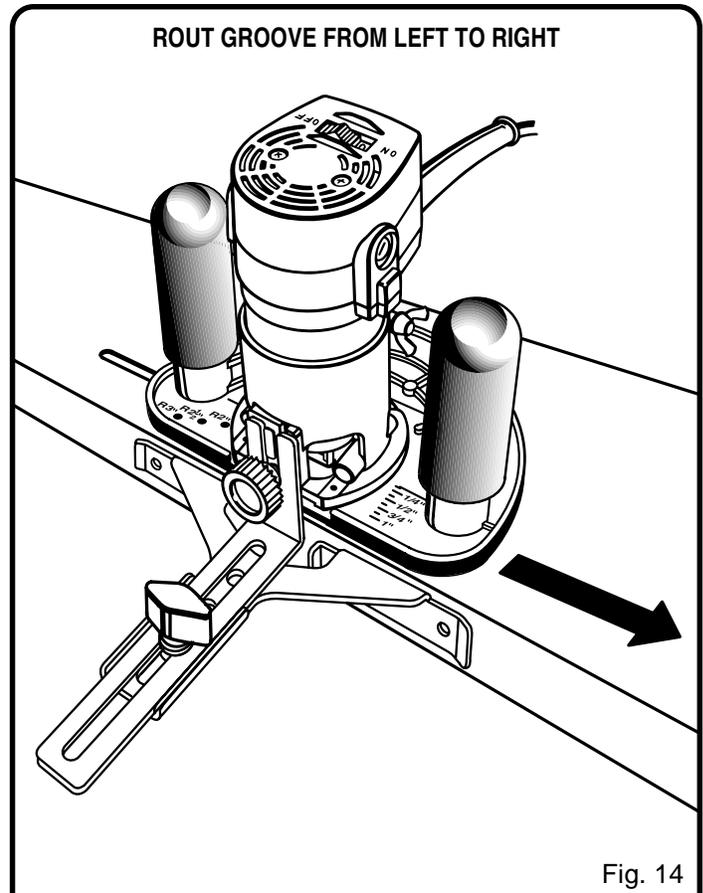

Fig. 14
See Figures 14 and 15.
- If you have purchased an optional straight guide, place cutter at desired position on the workpiece and make your cut from left to right as shown by the arrow in figure 14.